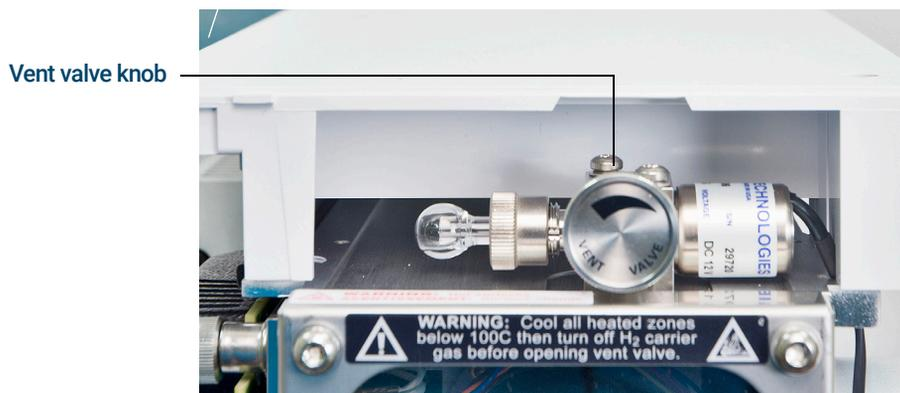

Figure 42 Vent valve knob
- 3 Verify that the vent valve is open by turning it clockwise until closed. (See Figure 42 on page 117.)
- 4 Open the vent valve by turning it counterclockwise 45 degrees. (See Figure 42.)
- 8 Close the vent valve when it makes a hissing sound. (See Figure 42.)